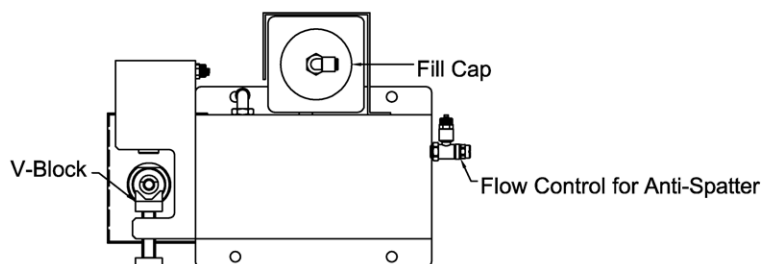

Fig. 3
1. Correct alignment of the welding nozzle is critical to the proper operation of the unit. The clamping V-Block must be adjusted according to the nozzle diameter, so as to center the nozzle above the reamer when the clamp is closed. The V-Block is adjusted by turning the set screw behind the V-Block in or out as shown in Fig. 3.
2. The “side to side” alignment of the clamping unit with respect to the reamer is set at the factory and normally will not require adjustment. However, if realignment is necessary, the entire clamping unit can be moved from “side to side” by loosening the (3) button head screws, holding the lift cylinder, located on the side of the unit.
1. Anti-Spatter solution is added to the unit by removing the fill cap on top of the bottle (see Fig. 3). The bottle capacity is approximately 1 quart.